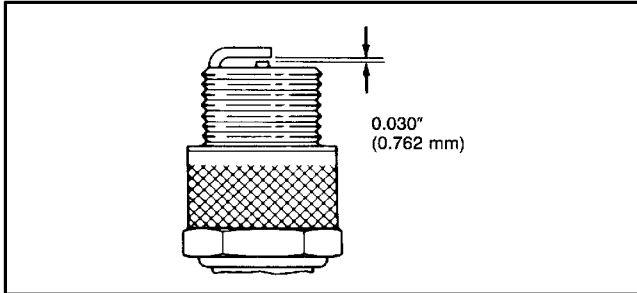

Figure 17
4. Set the air gap between the center and side electrodes at 0.030 of an inch (0.762 mm) (Fig. 17). Install correctly gapped spark plug w/gasket seal, and tighten the plug to 15 ft-lb (20.4 Nm).